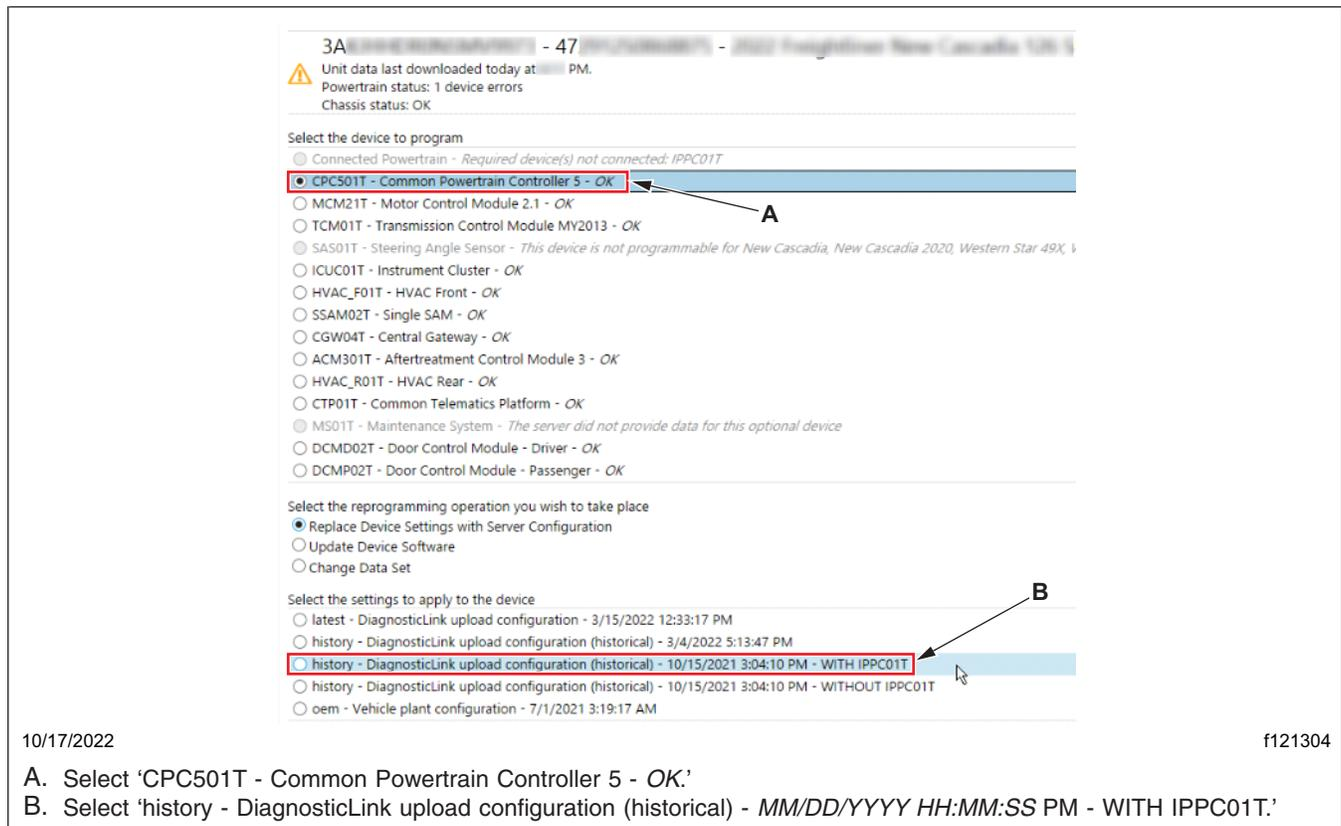

Fig. 19, Selecting the Device Configuration
22.1 Select 'CPC501T - Common Powertrain Controller 5 - OK' as the device to program. See Fig. 19.
22.2 Select 'history - DiagnosticLink upload configuration (historical) - MM/DD/YYYY HH:MM:SS PM - WITH IPPC01T' as the configuration to apply to the device. See Fig. 19.